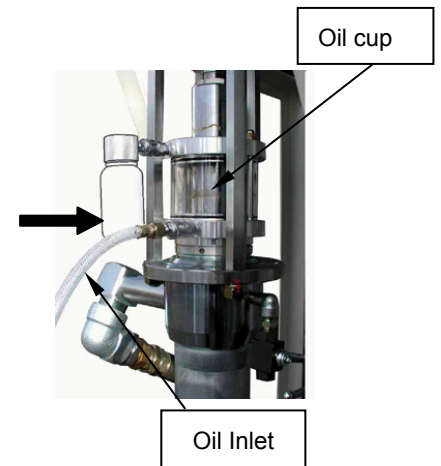

Fig.6.2
- 2) Connect the hose of the oil pump HOP-20W(option) to the lower coupler. (Fig.6.2)
- 3) Fill the pump with oil so that approximately 50 % of the cup is filled with oil with the up/down operation of the solvent pump. (Fig.6.2)
- 4) After filling the pump, remove each hose and attach the “overflowed solvent collection container” on the top of the cup. (Fig.6.2).